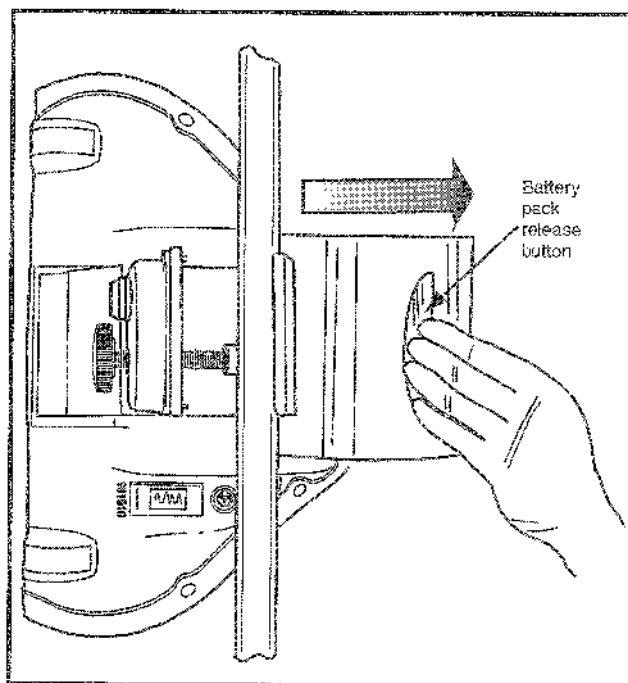

Figure 3
1. Refer to Figure 3. Press and hold the battery pack release button. Then, slide the battery pack out of the pump. You may want to use both hands (one to steady the pack) when removing the battery pack. Use care not to pinch your fingers or drop the battery pack.